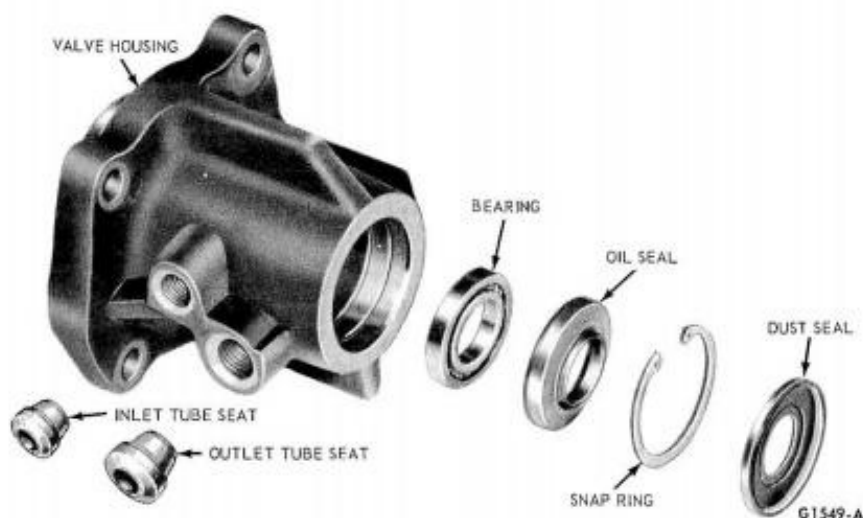

FIG. 15—Valve Housing Disassembled
1. Remove the dust seal (Fig. 15) from the rear of the valve housing with Tools T59L-100-B and T58L101-A and discard the seal.